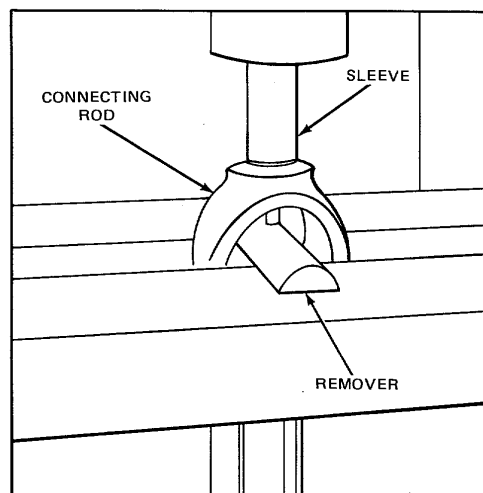

Figure 5. Removing Spray Nozzle
3. Support the connecting rod and tool in an arbor press as shown in Fig. 5.